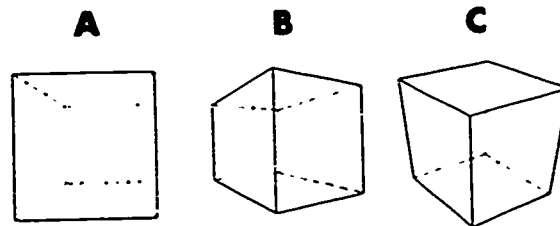

Figure 4-110. One-, two-, and three-point perspective (objective 058, exercise 2).
2. Using figure 4-110, specify which types of perspective A, B, and C are?